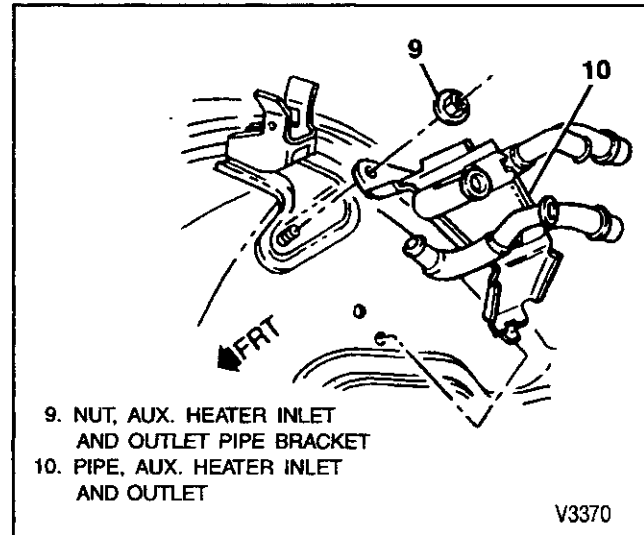

Figure 22—Auxiliary Heater Pipe
#### Remove or Disconnect (Figures 22 and 23)
11. Hose clamp (21).
12. Heater inlet hose (16) from auxiliary heater pipe (10).
13. Push auxiliary inlet hose (22) or outlet hose (23) into auxiliary heater pipe (10) and insert J 38723 or equivalent into hose to release locking tabs.
14. Nut (9) (figure 22).
15. Auxiliary heater pipe (10).
## Install or Connect (Figures 22 and 23)
1. Auxiliary heater pipe (12) (figure 22).
2. Nut (9).